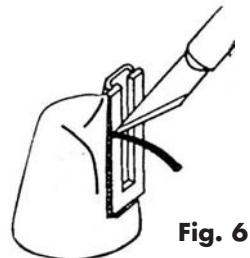

Fig. 6
9. Form a groove in the wax around the female face plate with a fine explorer or Bard Parker (Fig. 6). Hold the blade at approximately a 45° angle to the female faceplate. Remove a tiny amount of wax (0.1 mm) from all three sides of the faceplate, creating a bevel into which the casting investment will flow. This will help to stop alloy from casting onto the faceplate.